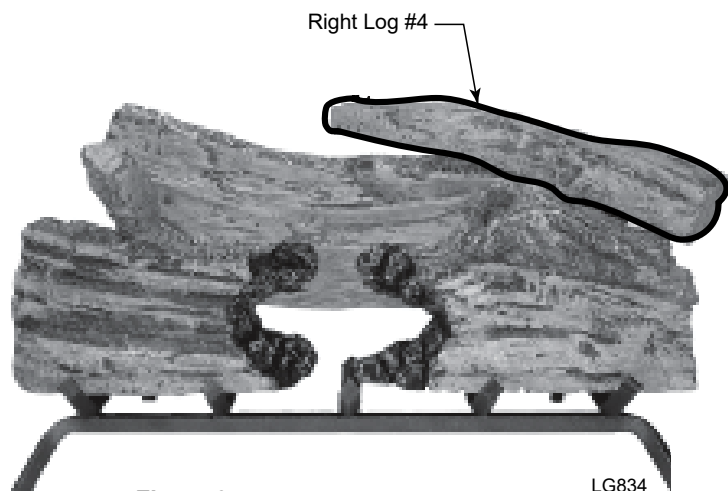

**Figure 82 -
4. Place front end of side support log #2 on top left of log #1a. Rest other end of log #2 on rear grate bar. *Figure 82*